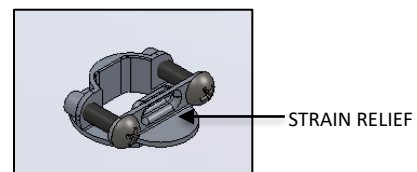

FIG. 5 - STRAIN RELIEF
- b. STRAIN RELIEF (as shown in FIG. 5)